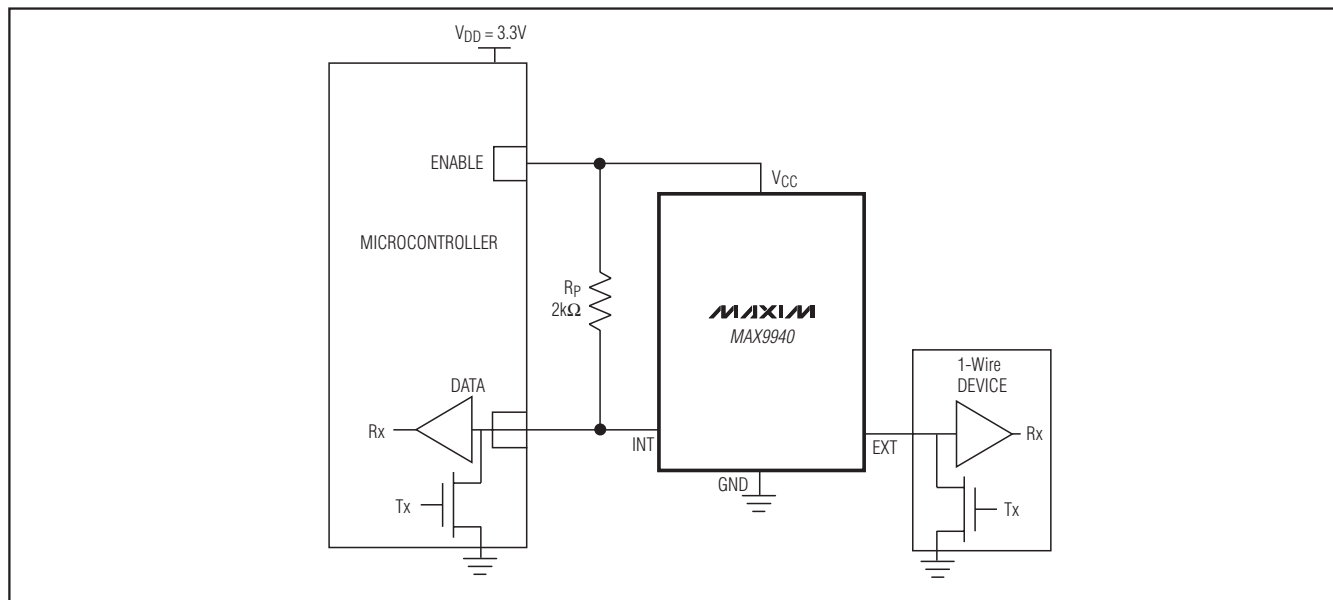

Figure 1. Recommended Scheme for Battery-Operated Devices that Need to Shut Down the MAX9940 and Prevent Power Draw During Short to GND Faults
Figures 1 and 2 show two methods of powering the MAX9940 from an ENABLE digital output port of the microcontroller. Figure 3 shows the conventional method of operating the MAX9940 with both pullup resistor for digital communication on DATA (RP) and VCC being connected directly to VDD of the microcontroller.
Figure 1 shows a recommended configuration for battery-operated devices that need to conserve power both on a continuous basis as well as during short to GND fault conditions. In this scheme, the ENABLE port of a microcontroller supplies the quiescent current for the MAX9940 as well as that required for digital communication (i.e.,  $R_P$  pullup resistor). By forcing a 0 on the ENABLE digital output port of the microcontroller, the MAX9940 is in a zero-power shutdown mode, while also preventing any power drain to occur in the event of a short to GND fault on EXT. As stated earlier, EXT maintains the ability to withstand DC voltages up to 28V even when  $V_{CC} = 0$ .